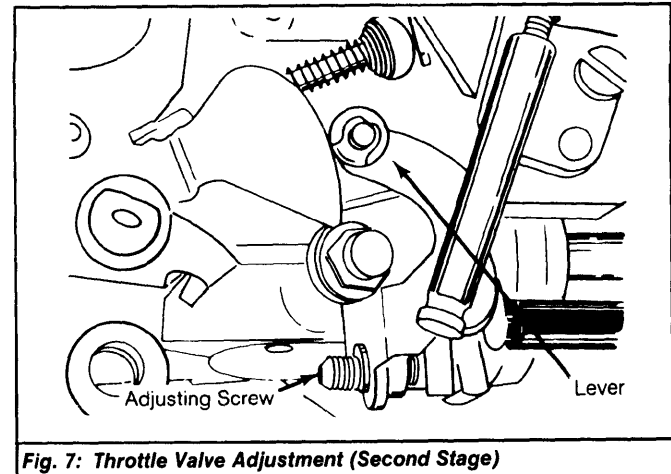

Fig. 7: Throttle Valve Adjustment (Second Stage)
2) Turn adjusting screw until the lever has no clearance, then back screw out 1/4 turn. See Fig. 7. Check for slight clearance of lever and reattach linkage.